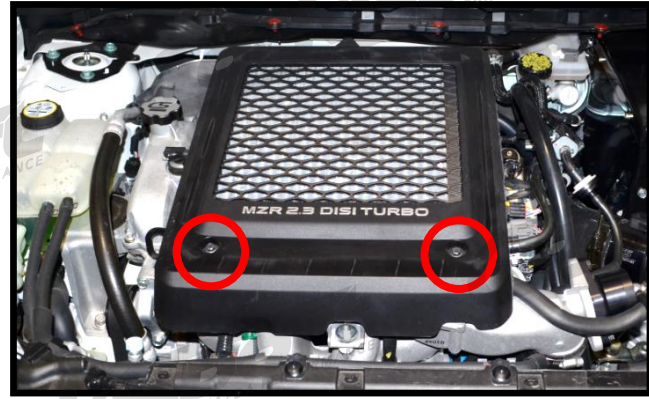

Figure 1a
- a) Remove the plastic top mount intercooler shroud. This is held on with two 10mm bolts (Circled **Figure 1a**).